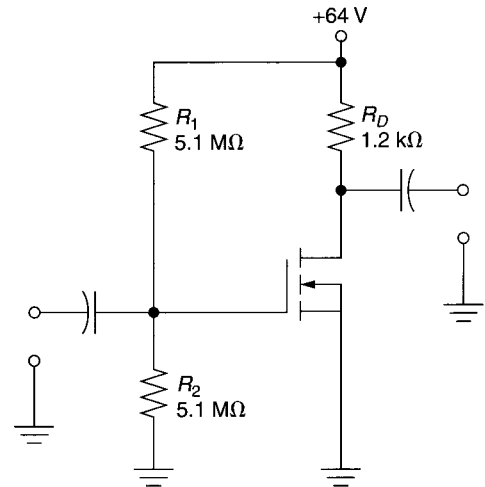

FIGURE 13.41
23. The MOSFET shown in Figure 13.41 has a maximum gate current of 800 pA when  $V_{GS} = 32$  V. Determine the input impedance of the device and the circuit. Then, determine the input impedance of the circuit, assuming that the MOSFET has infinite input impedance. What is the difference between the two values of  $Z_{in}$ ?